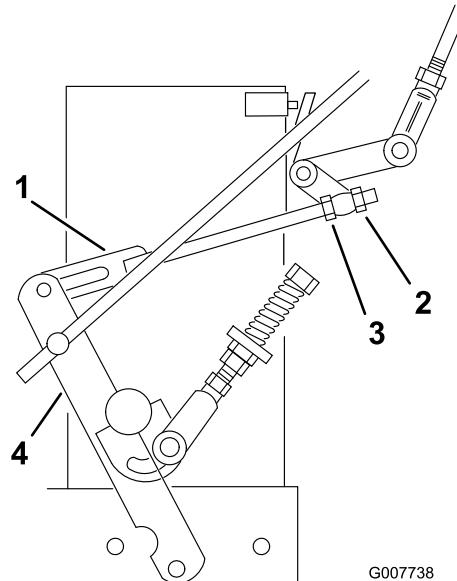

Figure 34
8. Loosen the front adjusting nut on left hydro control linkage as shown in Figure 34.
9. Turn the left rear adjusting nut counter-clockwise until wheel rotates forward (Figure 34).
10. Turn the rear adjusting nut clockwise $1/4$ of a turn at a time. Then move the speed control lever forward and back to neutral. Repeat this until left wheel stops rotating forward (Figure 34).